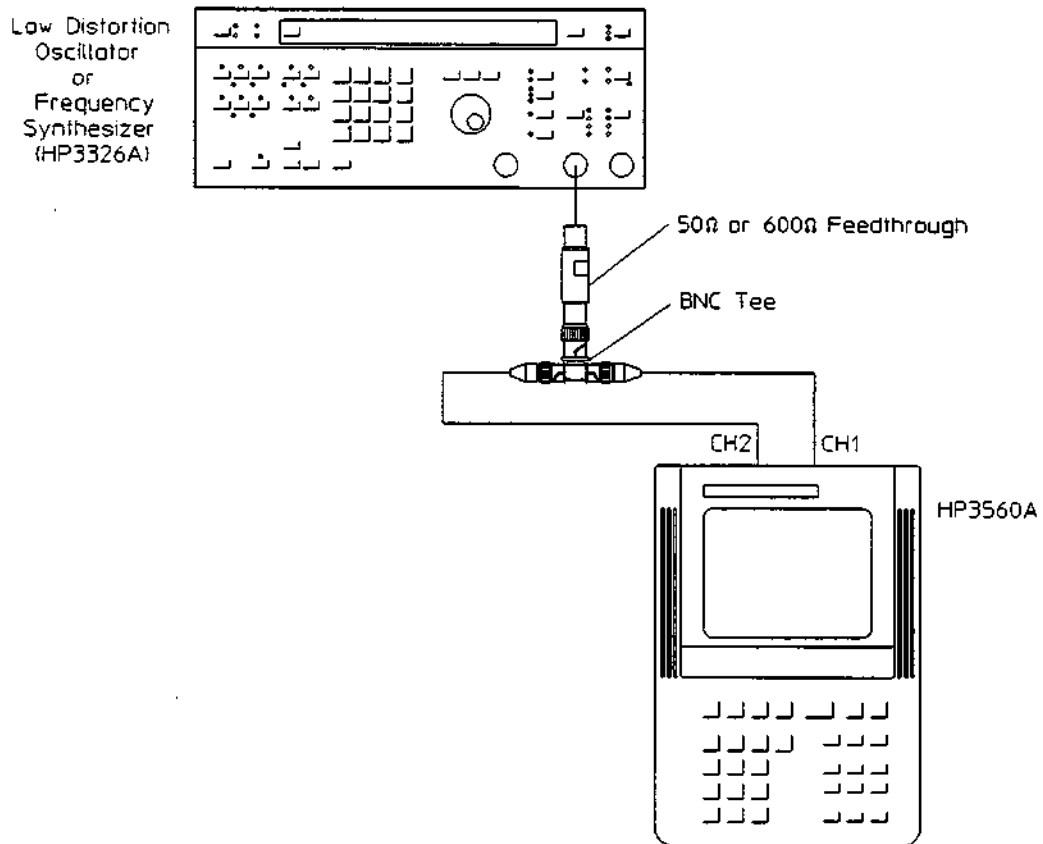

Figure 3-6.
1. Connect the Low Distortion Oscillator output to both channel 1 and channel 2 inputs as shown in figure 3-6.